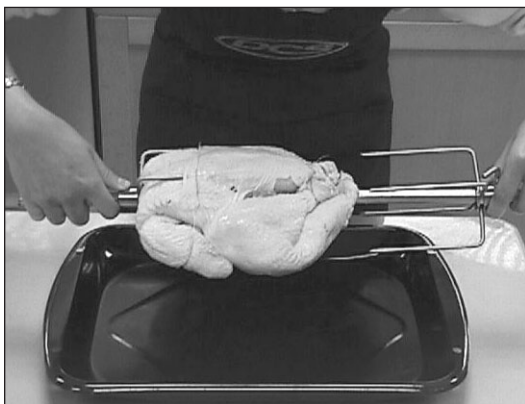

FIG. 21
2. Center tied meat/poultry on Rod, place second prong, turn L shape screw to tighten. (Fig. 21)